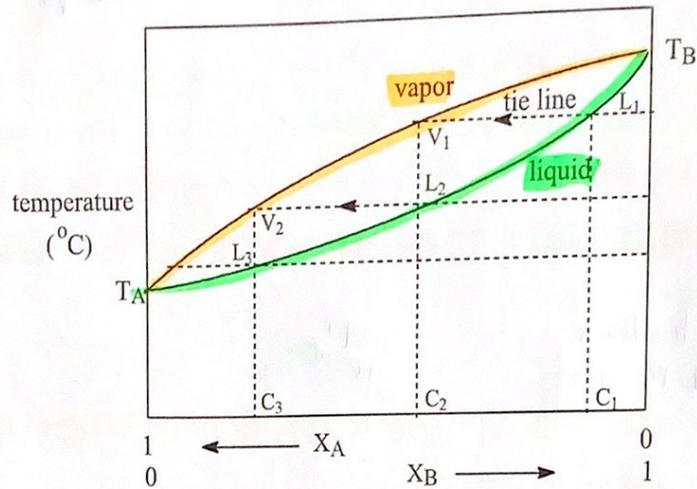

Figure 10. Temperature-composition diagram of two miscible liquids.
A solution of A and B will boil when the total vapor pressure ( $P_T$ ) equals the external pressure. This occurs at a temperature which is intermediate between the boiling points of the two pure liquids (lower curve in Figure 10).
In order to understand the separation of a pair of miscible liquids A and B by simple and fractional distillation, a boiling point diagram is helpful (Figure 10).
This diagram shows the temperature at which mixtures of A and B of various composition boil (lower curve). The composition of the vapor in equilibrium with the liquid is given by the tie line connecting the liquid and vapor curves. It is clear from Figure 10 that the vapor will always be richer than the liquid in the more volatile component. This makes sense, since the molecules of the component with the higher vapor pressure (more volatile) will escape more readily, and thus be in higher proportion in the vapor phase.
**Simple and Fractional Distillation.** Distillation is the process of heating a liquid to its boiling point, condensing the vapor by cooling, and collecting the liquid distillate. It is a technique for the purification of liquids and for the separation of liquid mixtures. The principles involved in distillation (simple / fractional) may be explained by referring to Figure 10.